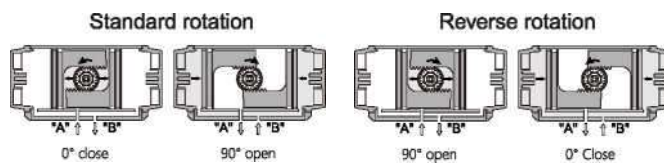

Fig. 1
2.1 Double acting actuator (see Fig. 1)